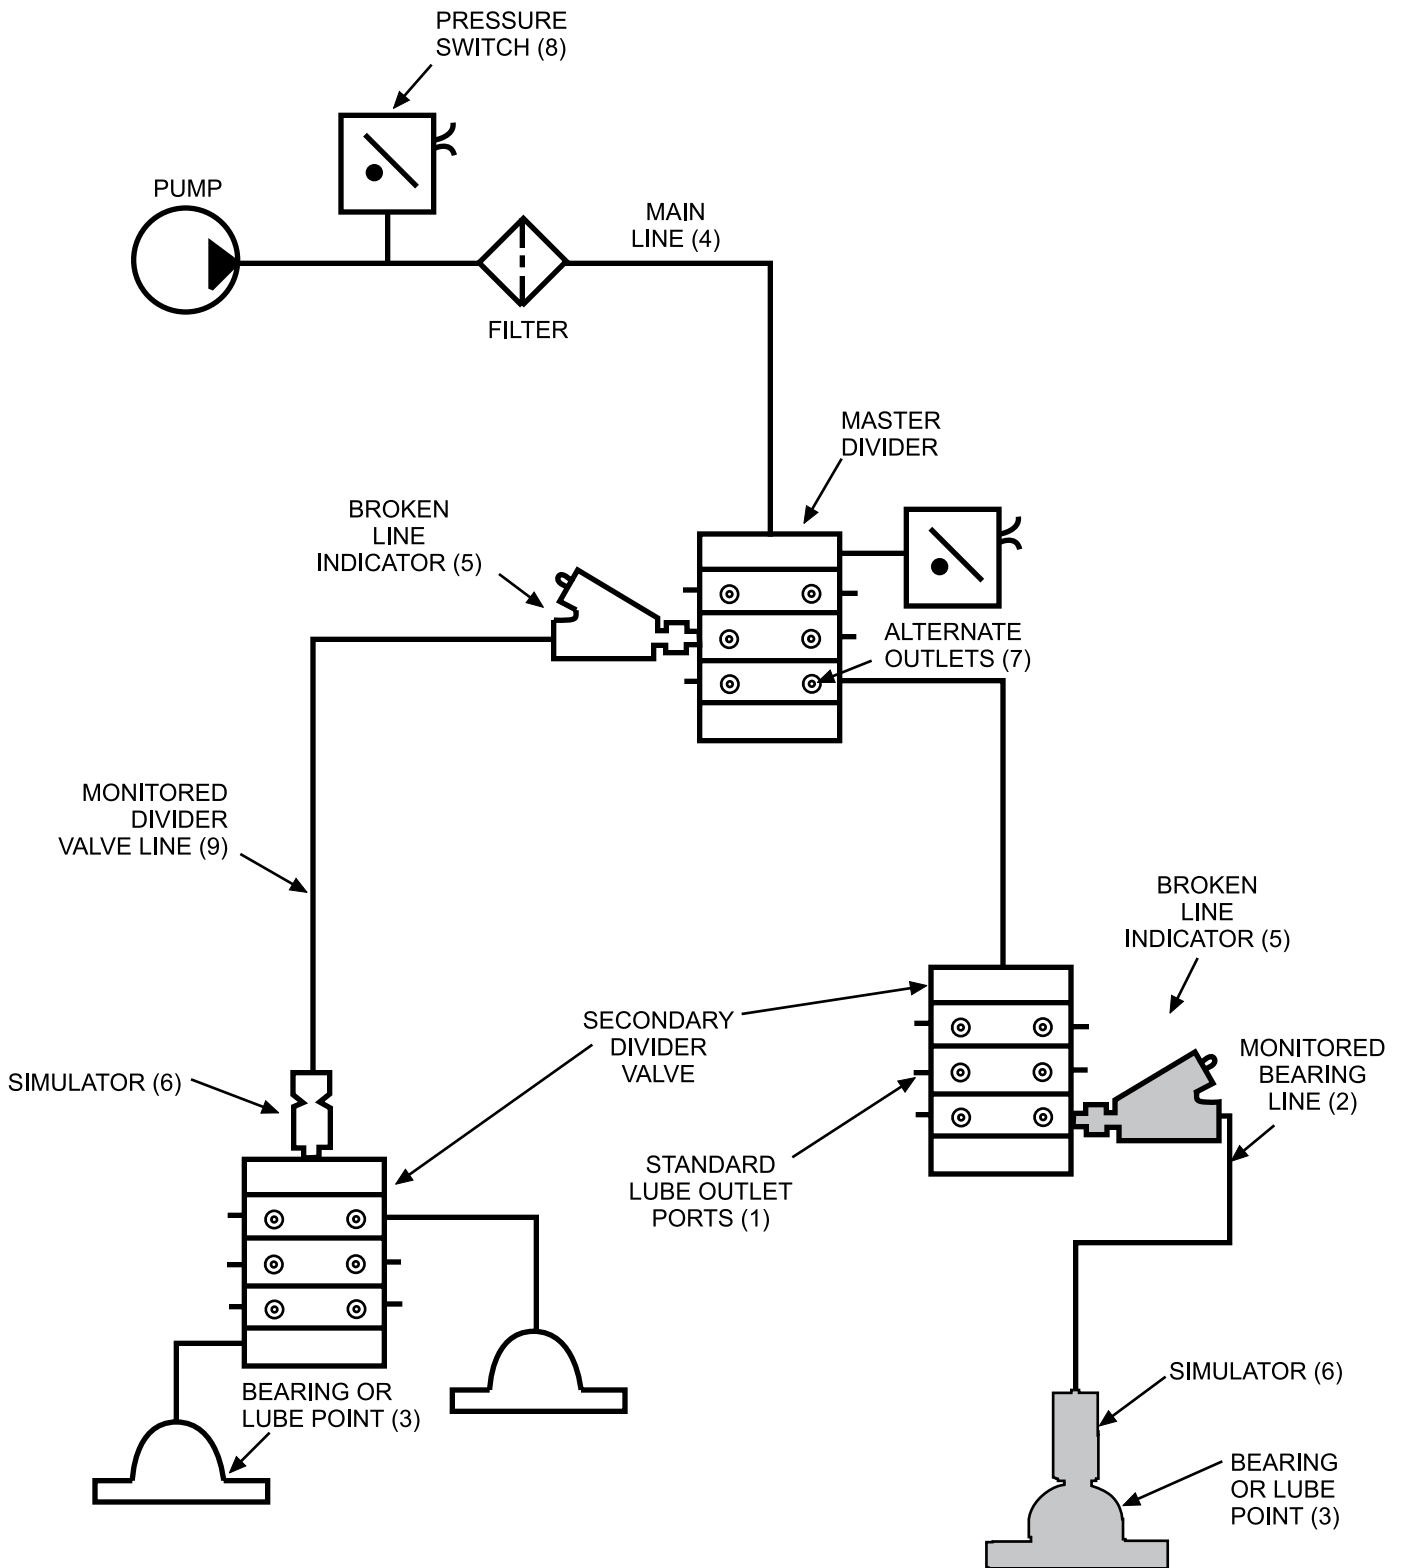
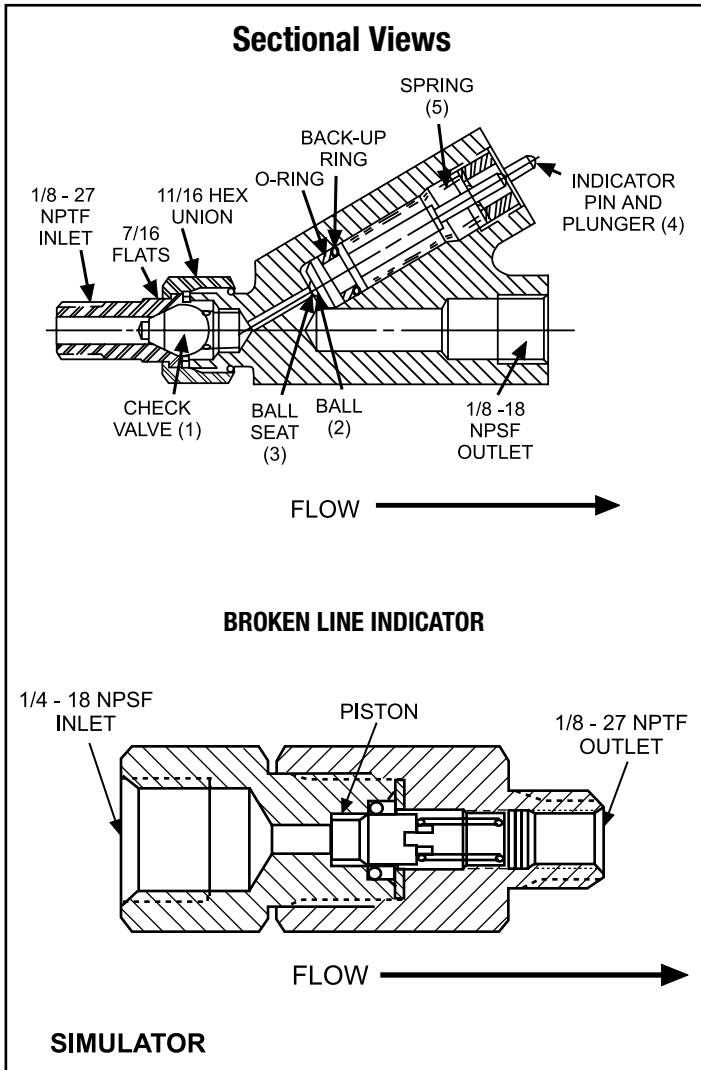

Figure 1
Figure 2
DESCRIPTION (Refer to Figure 1)
The Broken Line Indicator Kit includes an Indicator (5) and a Simulator (6). The Simulator is a preset relief valve. It is an O-ring sealed, piston-type relief valve for positive retention of line pressure. (See Figure 2 for cutaway views.)
OPERATION (Refer to Figure 2)
A pressure switch (8, Figure 1) should be installed in the main line between the pump and master divider.
3. Install the Broken Line Indicator into the divider valve outlet port (1, Figure 1) per steps D and E following.
4. Use pipe sealant (not PTFE tape) to assure zero leakage in the monitored bearing line (2). Do not allow the sealant to get into lubricant lines.
5. Loosen the 11/16 inch hex union (Figure 2) on the inlet of the Indicator (DO NOT REMOVE) and use the 7/16 inch flats to screw the Indicator (5, Figure 1) into the divider outlet port (1).
6. Install the pressure Simulator (6) as close as possible to the lubrication point (3) being monitored.
8. Select and install the associated pressure switch (8) and connect per Graco Bulletin 15521 (reference Table 4). The pressure switch must meet the pressure setting requirements in Table 1.